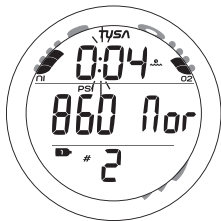

Fig. 95 - NORM SURF MAIN
**NORM Surface Main**, information includes (Fig. 95) -